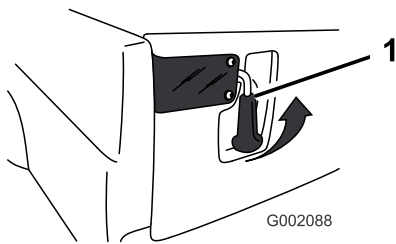

Figure 26
1. To open the tailgate latches, lift the latch handles up (Figure 26). The latches will spring out toward the center of the tailgate. Slowly lower the tailgate.